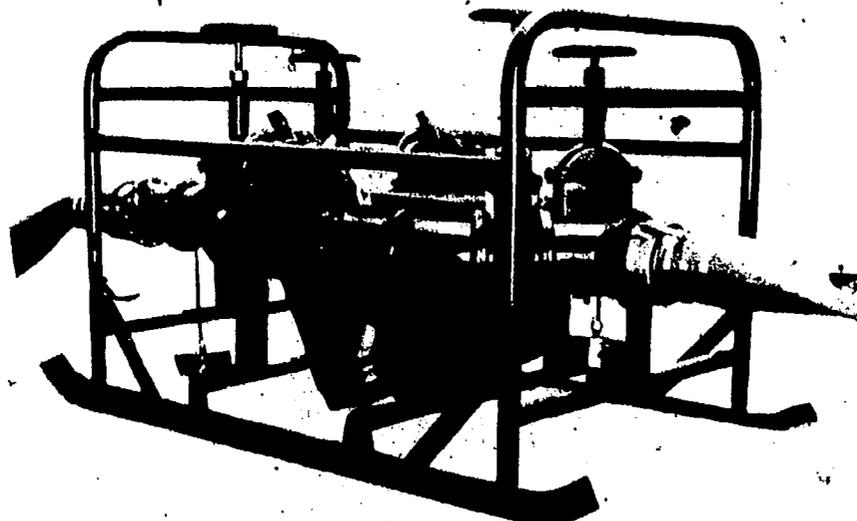

Fig 1-30. Strainer assembly.
e. Strainer assembly (fig 1-30). The 6-inch skid-mounted strainer assembly is part of the over-the-bench fuel supply equipment used when receiving fuel from vessels off shore. Its purpose is to remove any solid contaminants such as sand and rust that could be sucked up from the bottoms of the tanker.